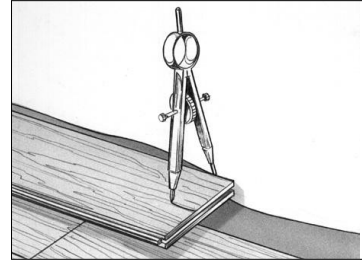

Fig. 3
1. Use dividers or a 1" (2.54 cm) spacer turned sideways to mark the contour (**Fig. 3**).